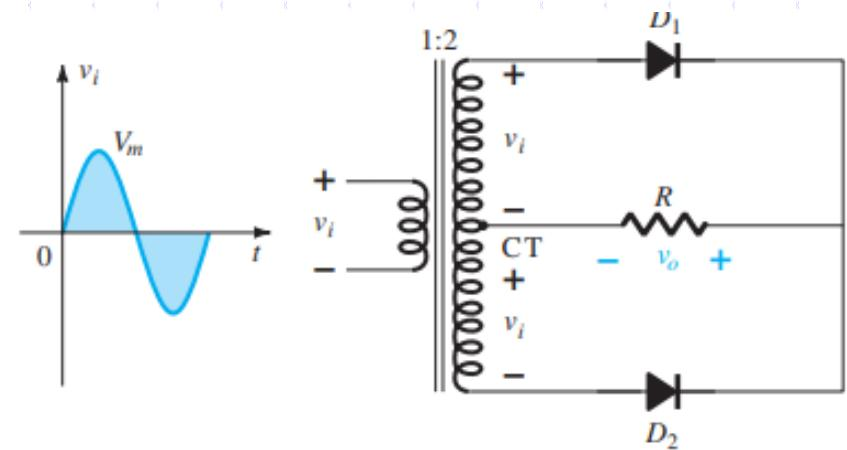

FIG. 2.60
A second popular full-wave rectifier appears in Fig. 2.60 with only two diodes but requiring a **center-tapped (CT) transformer** to establish the input signal across each section of the secondary of the transformer